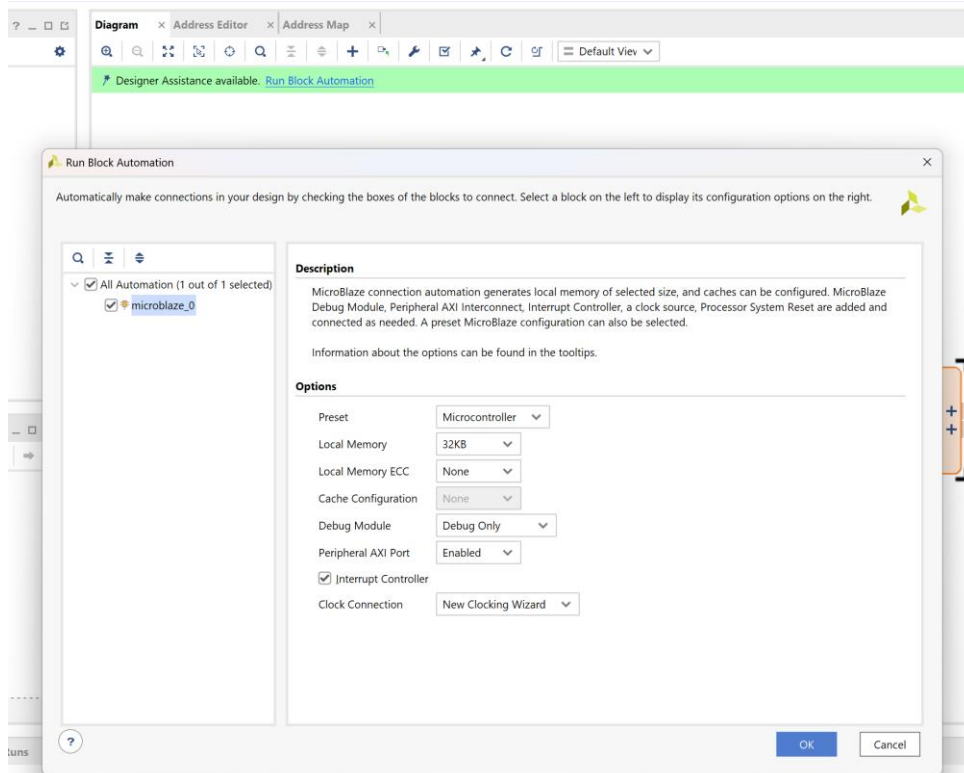

Figure 2 - Block Automation
- Select the “Microcontroller” Preset and then modify the “Local Memory” to 32KB (see Figure 2). *You should do some research and figure out what are some primary differences between the various presets which are available.*